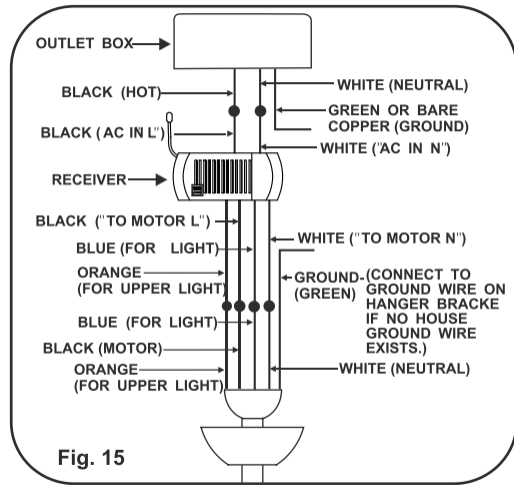

Fig. 15
**NOTE:** If your ceiling fan features an UP Light: Connect the ORANGE wire from the fan to the ORANGE wire marked "For Up Light" from the Receiver. Otherwise disregard this step and proceed to secure all wire connections with the plastic wire nuts provided. (Fig.15)
**Step 3. Receiver to House Supply Wires Electrical connections:** Connect the **WHITE** wire(Neutral) from the outlet box to the **WHITE** wire marked "AC in N" from the receiver. Connect the **BLACK** wire(Hot) from the outlet box to the **BLACK** wire marked "AC in L" from the receiver. Secure all wire connections with the plastic wire nuts provided.(Fig.15)
**Step 4.**If your outlet box has a **GROUND** wire (Green or Bare Copper) connect this wire to the Hanger Ball and Hanger Bracket Ground wires. If your outlet box does not have a Ground Wire, then connect the Hanger Ball and Hanger Bracket Ground Wire together. Secure wire connection with the plastic wire nut provided.(Fig. 15)